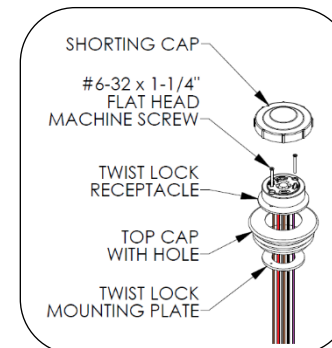

Fig. 6 – Install twist lock receptacle to top cap
6. Install the top cap on the pole (shipped with the pole). If the unit has a twist lock receptacle, assemble the receptacle and the top cap as shown in Fig. 6 and connect wiring before installing the top cap.